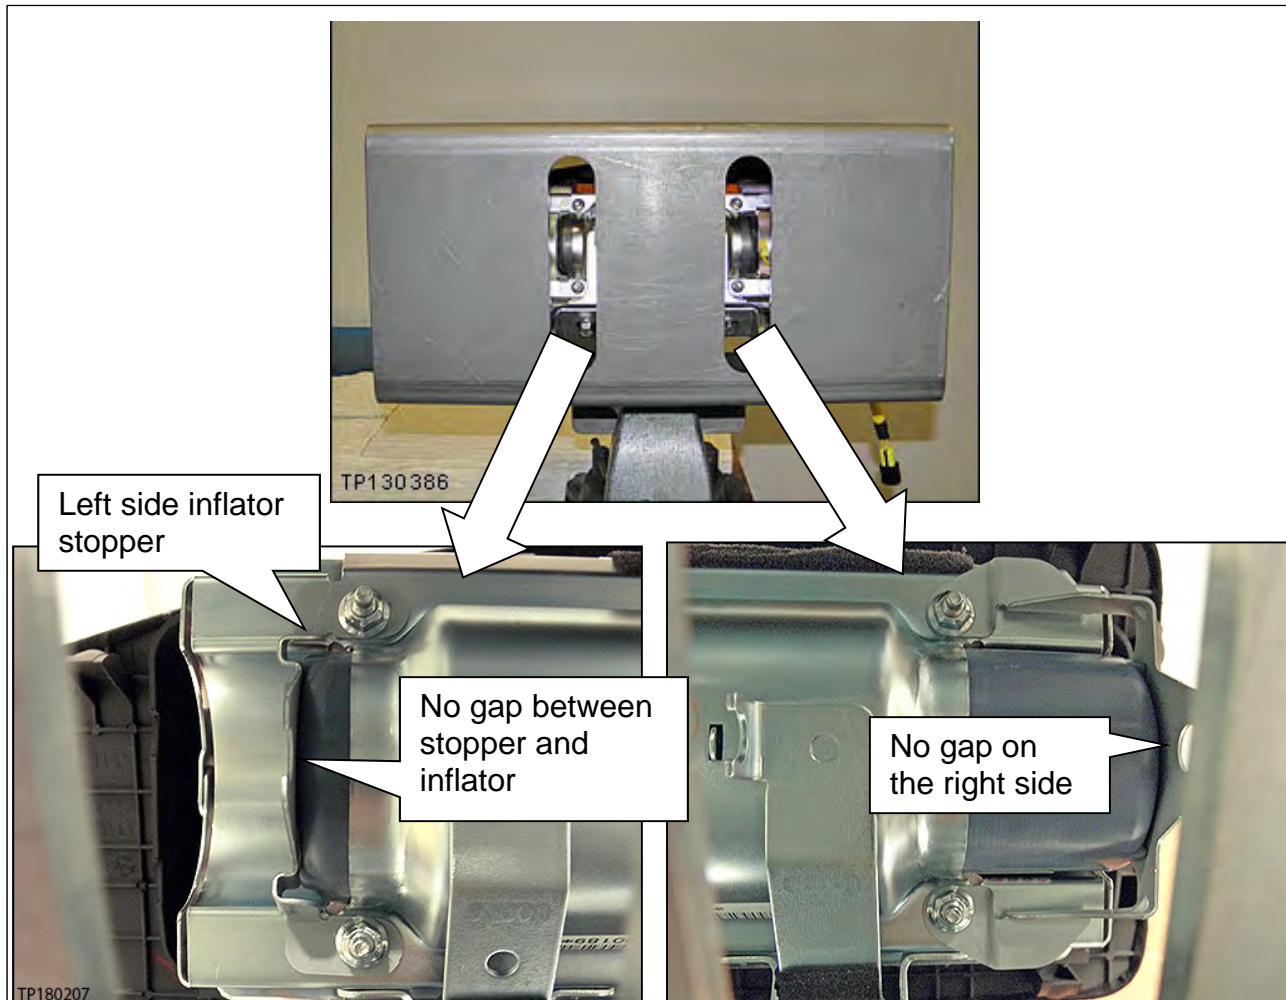

Figure 41
47. Make sure the inflator is pushed all the way into its housing (no gap on the right), and there is no gap between the inflator stopper and the inflator on the left side (Figure 41).